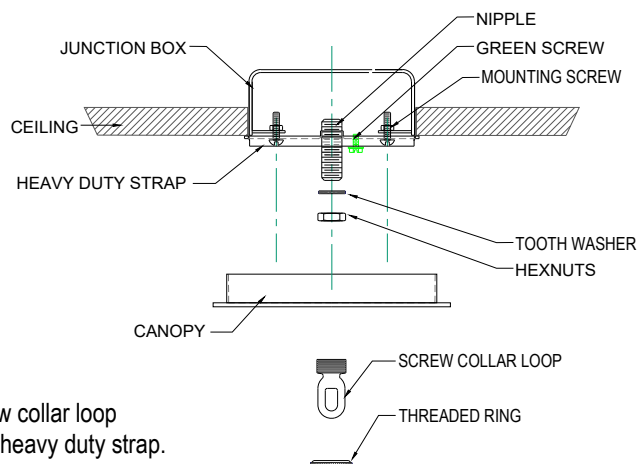

FIGURE-01
2. Remove the threaded ring from the screw collar loop. Fully thread the screw collar loop onto the nipple. Thread the hex nut onto the nipple and the nipple into the heavy duty strap. Place the canopy over the screw collar and against the ceiling. Adjust the nipple so that $\frac{1}{4}$ " of threads on the screw collar loop extend beyond the canopy. Tighten the hex nut against the heavy duty strap. Using the threaded ring, install the canopy. (See Figure -01)